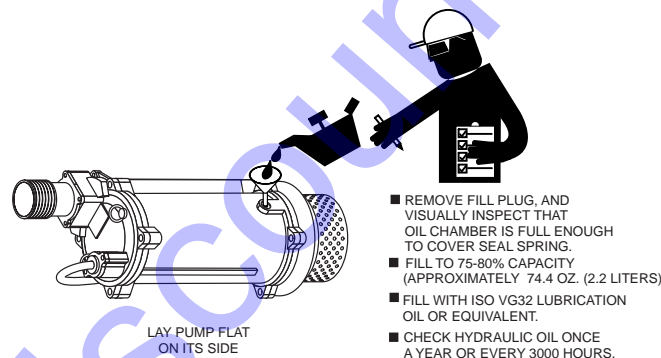

Figure 17. Adding Lubrication Oil
1. Lay the pump (Figure 17) on its side with the oil plug facing upwards.
2. Use a funnel (Figure 17) and fill oil chamber with ISO VG32 lubrication oil or equivalent. Oil chamber capacity is 74.4 oz. (2.2 liters). Fill to 75-80% capacity to allow for expansion. Replace lubrication oil once a year or 3,000 hours.